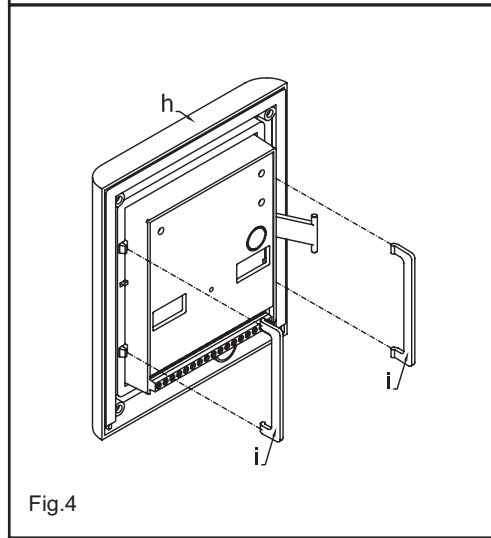

Fig.4
4. Before the installation of the module support frame, fit the two anti-tampering locks provided as shown in figure 4;